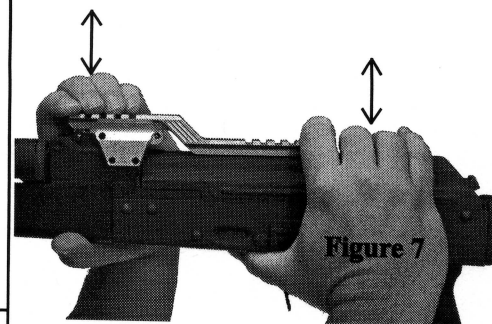

Figure 7
- 6.2 With one hand, grasp the receiver and the upper portion of the rail to simulate lock-down position. With the other hand, grasp the receiver and the "dropped" part of the rail and alternating hands, squeeze or rock the rail to where it contacts the dust cover. You will want to adjust the "bump guard" screw to have minimal (.005"- .020") travel but not touching. The closer the better. The screw has a nylon thread-locker that allows adjustment but will not vibrate loose with use (see figure 7).